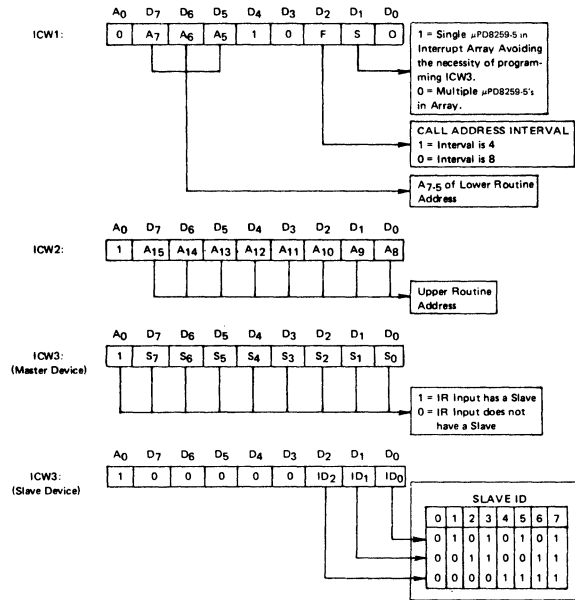

FIGURE 2
Each μPD8259-5 in the interrupt array must be initialized prior to normal operation. The initialization is performed by a 2 or 3-byte sequence clocked by \overline{WR} pulses. Figure 1 shows this sequence. (Refer to Figure 2 for bit definitions.)
- Notes: ① Reference Figure 2
The SEOI is programmed by setting the appropriate bits in OCW3 (Figure 2) to logic "1"s. Both the EOI and SEOI bits of OCW3 must be set to a logic "1" with L₂, L₁, L₀ forming the binary code of the ISR bit to be reset.